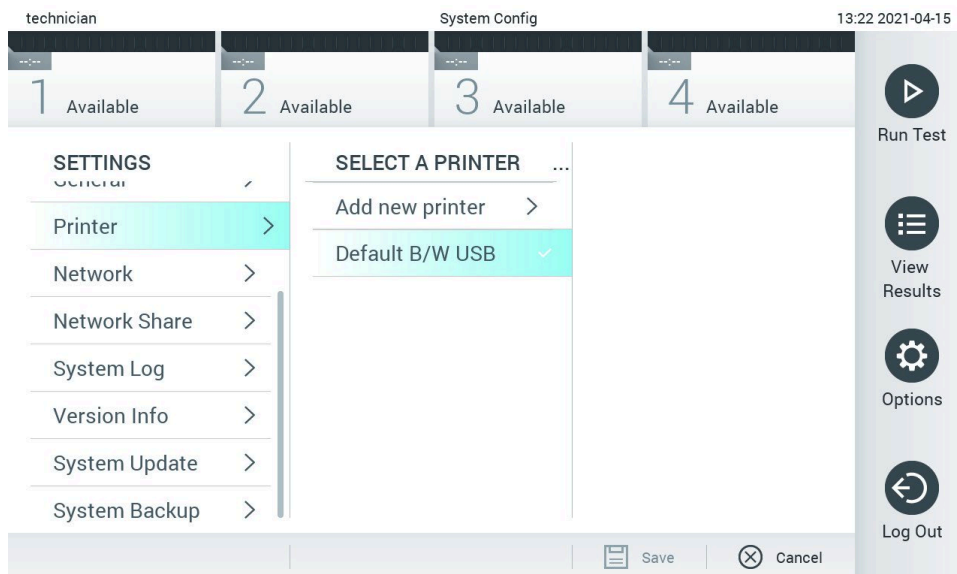

Figure 74. Selecting a system printer.
3. Select a printer from the list of available printers (Figure 74).